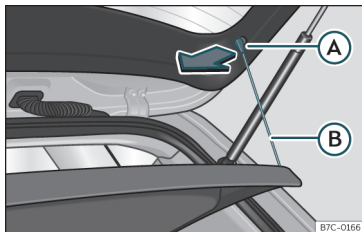

Fig. 135 In the boot: removing and installing the shelf.
- Detach the cord loops >>> **Fig. 135** (B) from their hooks (A).
- Hook the loops >>> **Fig. 135** (B) to the rear lid.